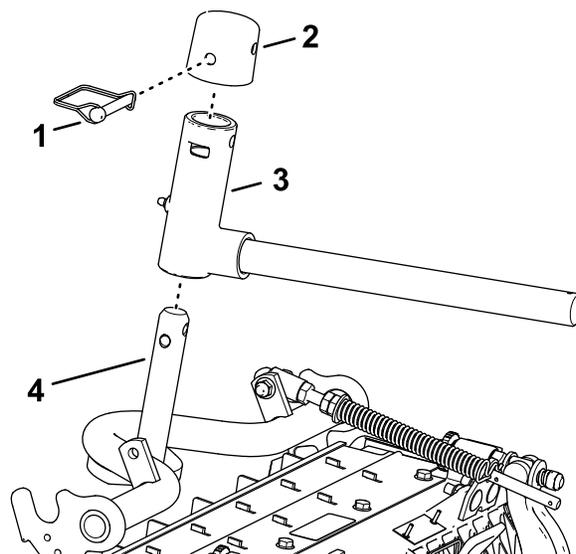

**Figure 25**
- Remove the lynch pin and washer securing the pivot yoke to the lift arm and slide the shaft out of the lift arm (Figure 25).